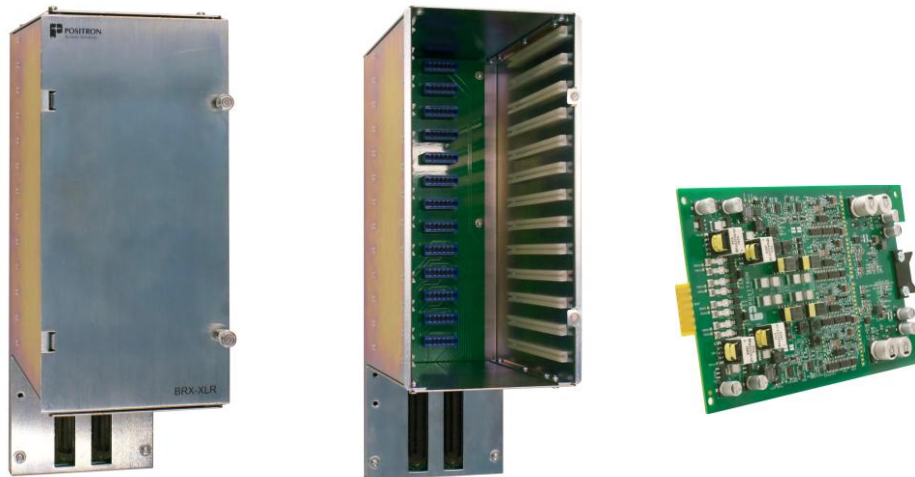

Figure 7: 24-pair chassis (BRX-24S) with and without cover and a 2-pair module (BRX-XLR-M)
The 24-pair BRX-XLR-24-1Sxx pedestal has a number of available options. First, the base component (not optional) is called the **BRX-XLR-24-1S**. This is based on an Emerson CAD-12 Pedestal equipped with one (1) factory installed 24-pair shelf (BRX-24S) factory-installed with 12 BRX-XLR-M 2-pair ADSL2+ amplification modules (24 pairs) as shown in Figure 7. At the bottom of the BRX-24S are two standard RJ-21 (champ 50) connectors (aka Amphenol connectors). The leftmost connector is used to connect the pairs toward the CPE devices. The rightmost connector is used to connect the pairs from the DSLAM.